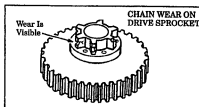

Figure 39
- Inspect the sprocket regularly for wear. A worn sprocket will cause the chain to run erratically and will shorten the life of the bar and chain. Figure 39.
- If sprocket is worn (Figure 39), have the sprocket replaced by your Authorized Service Dealer. User sprocket replacement can cause the double insulation system to become ineffective and can increase the risk of electric shock.